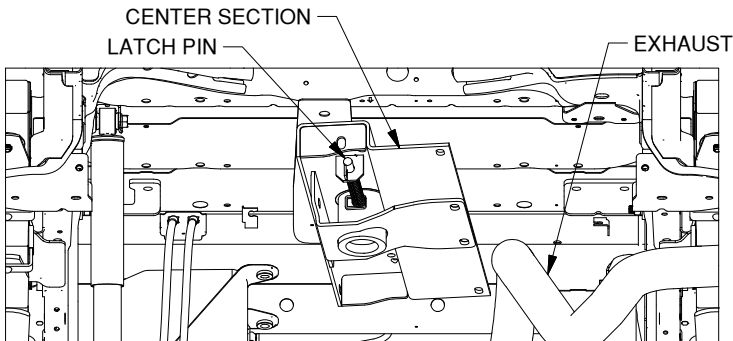
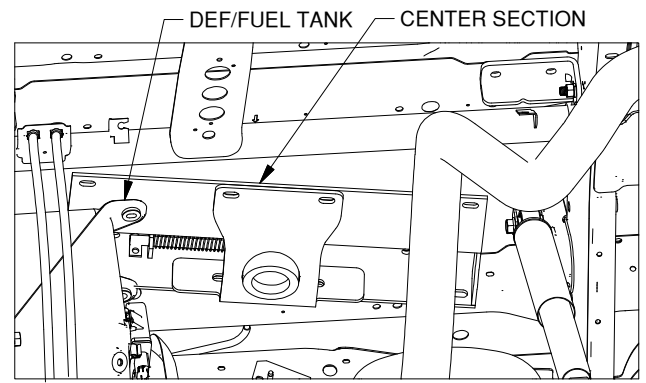

Figure D1: Looking up under truck bed (towards cab)
Figure D2: Looking up under truck bed (over differential)
1. **Maneuver center section into place.** Locate the center section. With the raised portion of the center section up and the latch pin toward the rear of the truck, lift the center over the differential from the rear. Continue moving center section over the differential and toward the passenger side in front of the downturn in the exhaust pipe, see Figure D1. Rotate the center section and lift the latch pin side over the fuel tank so that the center section is perpendicular to the centerline of the truck, see Figure D2.